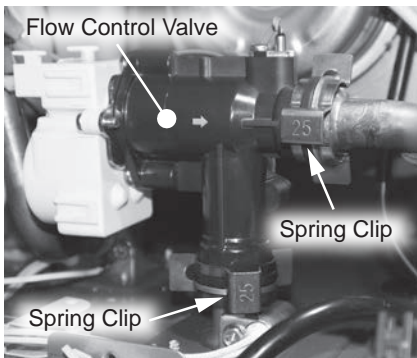

Figure 99 - Locating and disconnecting flow control valve
- 15 Locate the flow control valve in the water heater as shown in Figure 99.
- 16 Remove the two spring clips (size 25) securing the flow control valve to the piping system. Place the spring clips aside in a safe place for reinstallation. See Figure 99.
34 Locate the two (2) spring clips previously removed in **Step 16**. Install spring clips to flow control valve, securing it to piping connections. See Figure 99. Verify water connections are tight and will not leak.